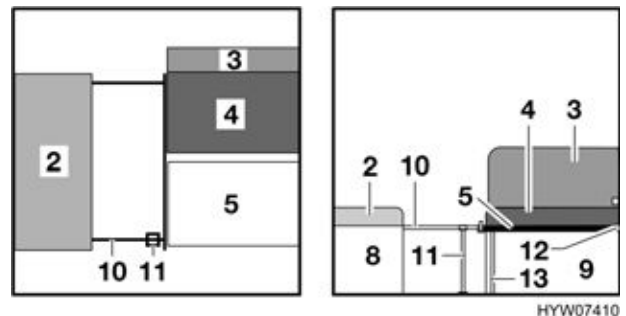

Fig. 88 During conversion
- Take the support (Fig. 88,11) out of the holder in the divan.
- Pull out the bedding box extension (Fig. 88,10) on the divan all the way.
- Set the support (Fig. 88,11) on the side on which the bedding box extension does not lie on the central bench under the bedding box extension.
- Lay the seat cushion (Fig. 88,2) back onto the divan.